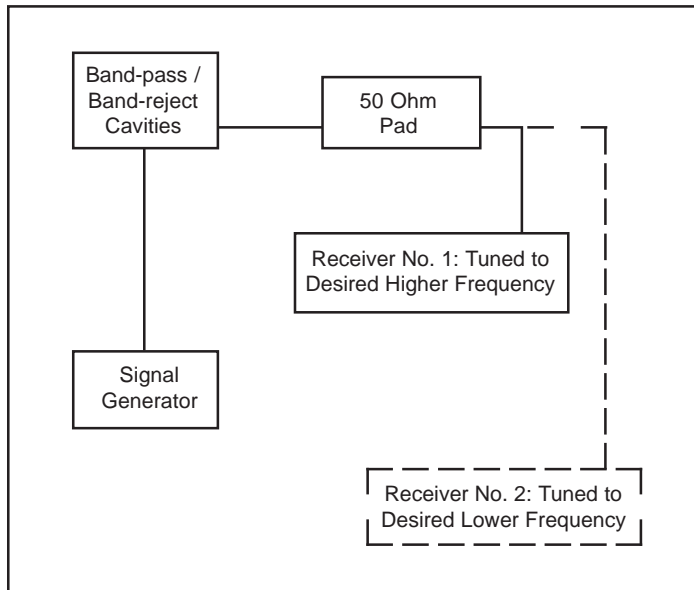

Figure 2
1. Connect the equipment as shown in Figure 2.